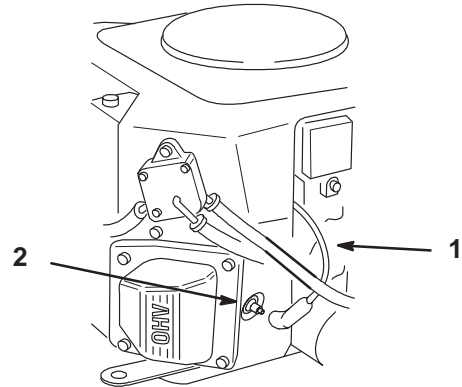

Figure 35
2. Pull the wire(s) off of the spark plug(s) (Fig. 35). Clean around the spark plug(s) to prevent dirt from falling into the engine and potentially causing damage.
3. Push the wire(s) onto the spark plug(s) (Fig. 35).